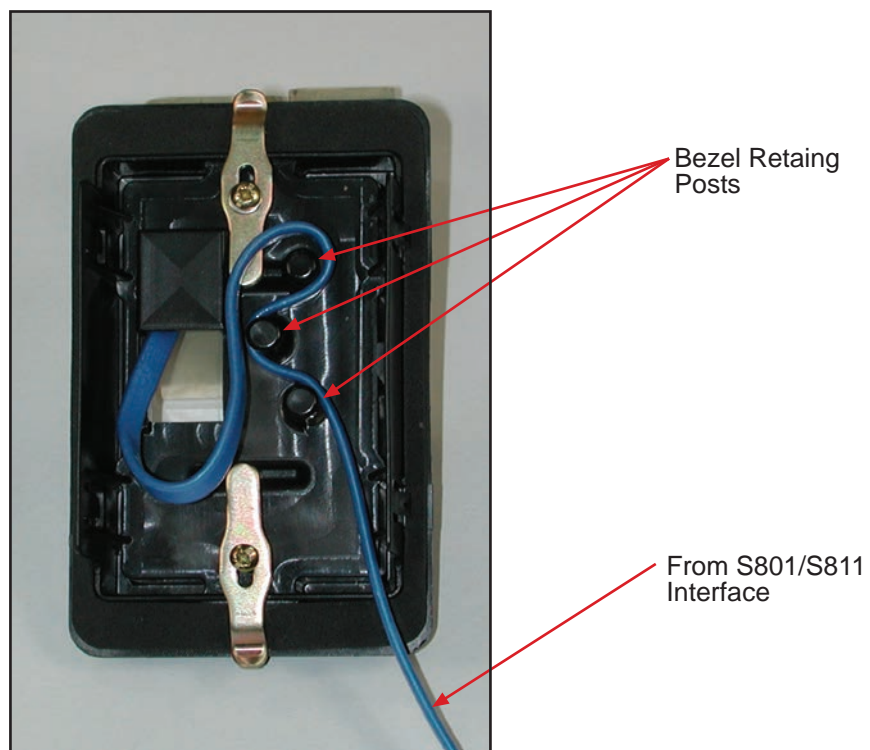

Figure 9.
17. Route the communication cable through the cable strain relief's located on the back of the Door Bezel and insert the connector into the CIM or DIM. See Figure 9. If the cover is to be used proceed, if not got to step 25.